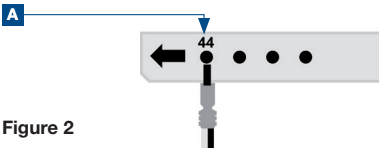

Figure 2
- 08 Install cable (black/white) in cable set connector plug XE1 (Figure 2):